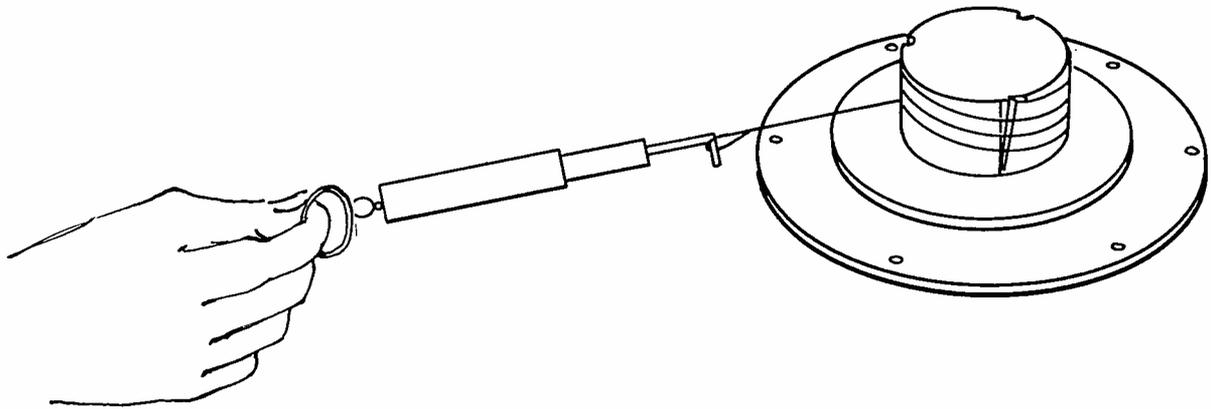

Figure 5-5. Preparing for Reel Tension Adjustment
3. Place one end of the nylon cord through the reel guide and the hub of the takeup turntable (see Figure 5-5).